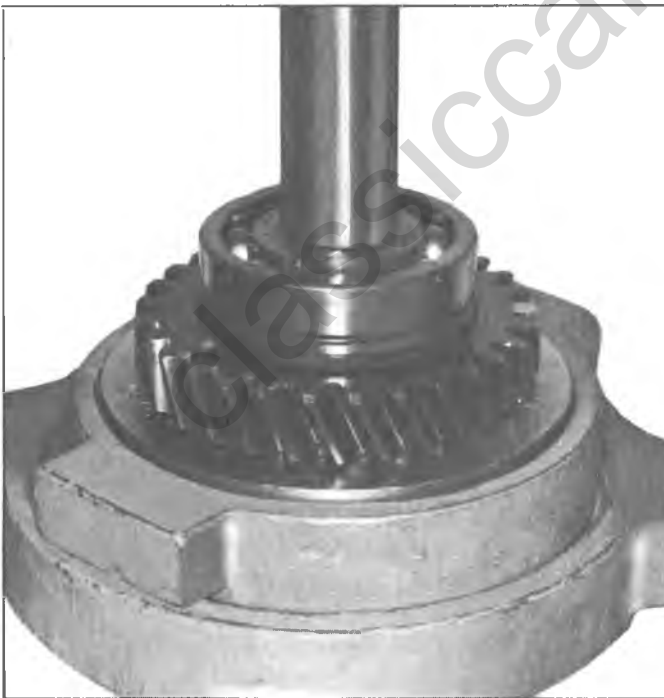

Fig. 9X-Removing Rear Bearing and First Speed Gear
4. Support first gear with press plates and press on rear of mainshaft to remove first gear, thrust washer, spring washer, and rear bearing from rear of mainshaft (fig. 9X).